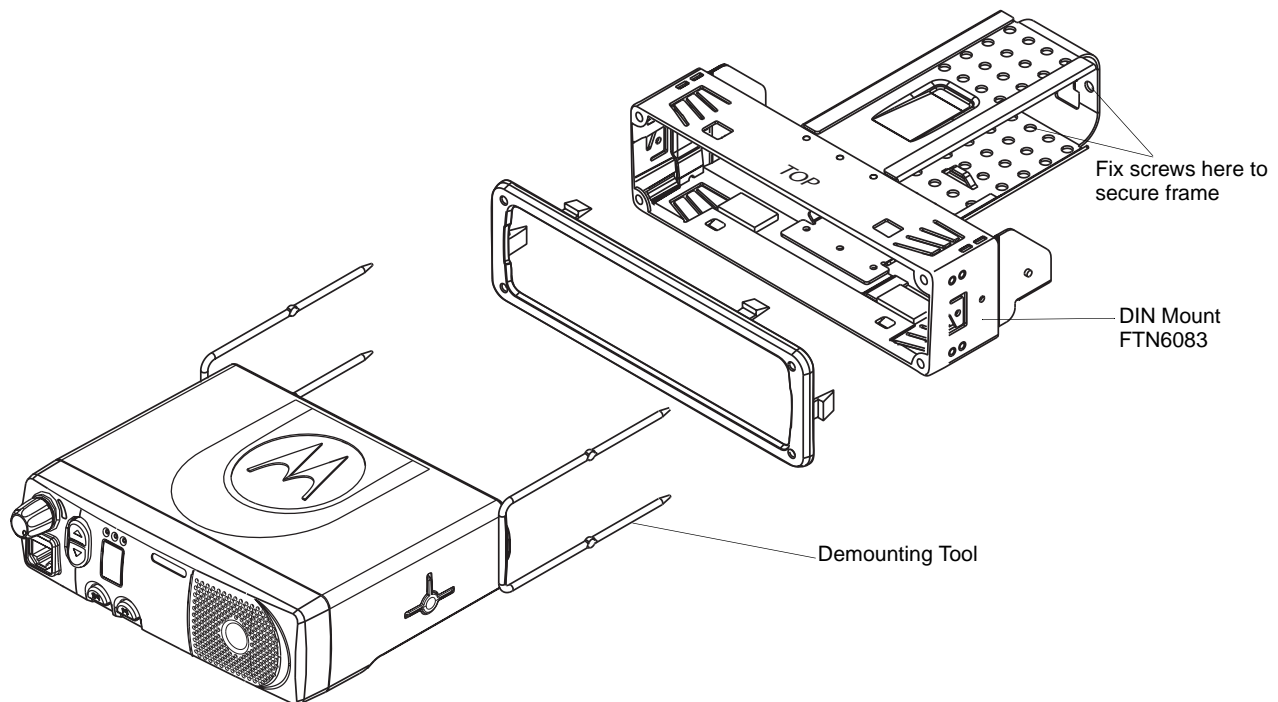

Figure 5-1. Fitting the Radio into the Frame
5.1.2 Inserting the Radio into the Mounting Frame (Figure 5.1)